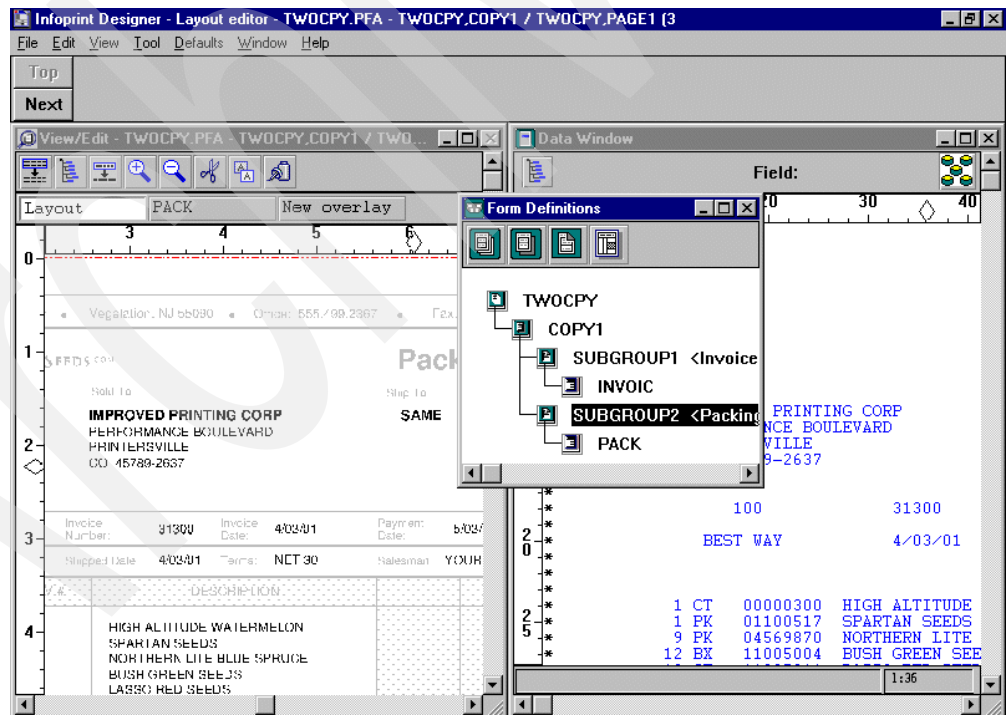

Figure 30. Verifying subgroup
- c. Click a blank part of the View/Edit window. The data is reloaded, and you should see the Packing Slip overlay with the description fields, but not the prices. Your screen should look something like the example in Figure 30.